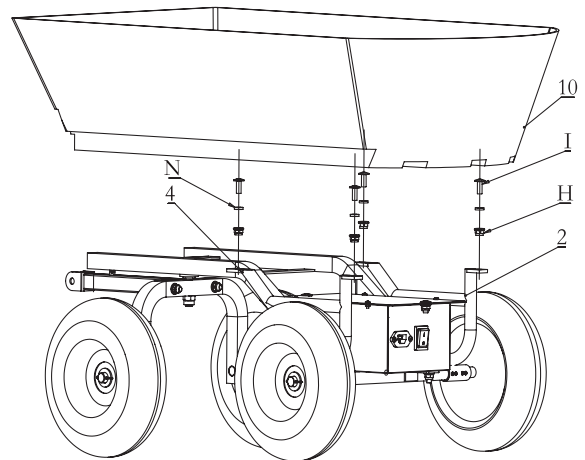

Fig.6
1. Align the hole of tray (10) with hole on left wheel bracket (2) and right wheel bracket (4), use 4 pcs M8x20 bolt (I), 4pcs $\Phi 8$ washer (N) and 4 pcs M8 nut (H) to tighten the tray, note the washer (N) need to be placed inside the tray. See Fig. 6.